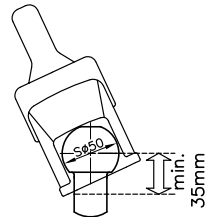

Fig. 1: Towing vehicle ball rod
1.3 WS 3000/3500 ball couplings can only be used with coupling balls pursuant to DIN 74058 / ISO 1103 if the ball neck is **free from fittings over a distance of 35 mm** (Fig. 1) (instead of 32 mm pursuant to DIN 74058 / ISO 1103).